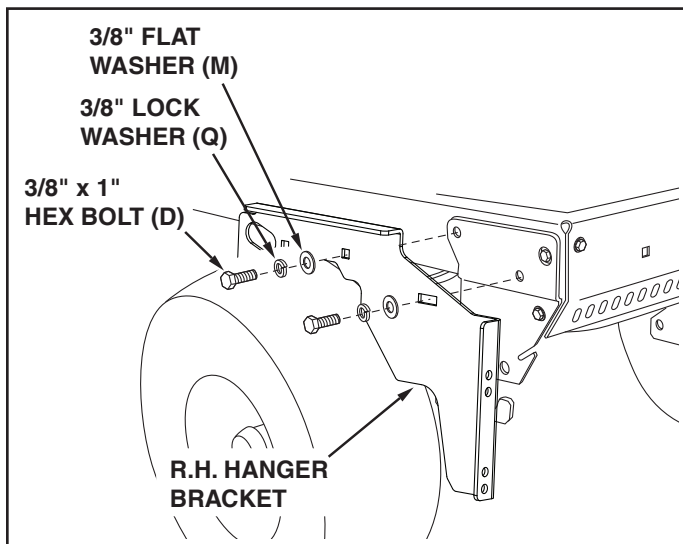

FIGURE 10
19. Attach the R.H. hanger bracket to the front two holes in the right side of the tractor frame using a new 3/8" x 1" hex bolt (D), 3/8" lock washer (Q), and 3/8" flat washer (M) as shown in figure 10. Do not tighten yet.